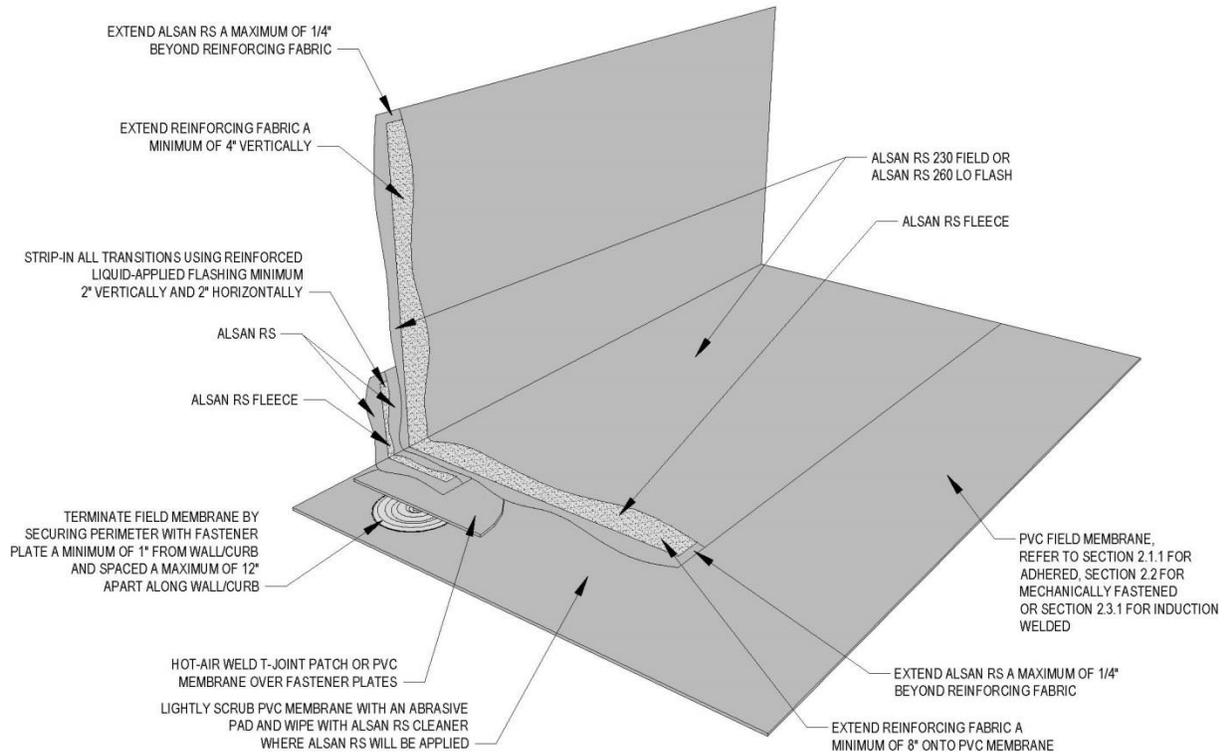

Figure 3a ALSAN® RS Wall/Curb Flashing on PVC Membrane With Horizontal Perimeter Fastening
- ALSAN® RS liquid-applied flashing systems may be used with adhered PVC membranes to form waterproof flashings for roof transitions, terminations and penetrations. Refer to Figures 3a through 3c.